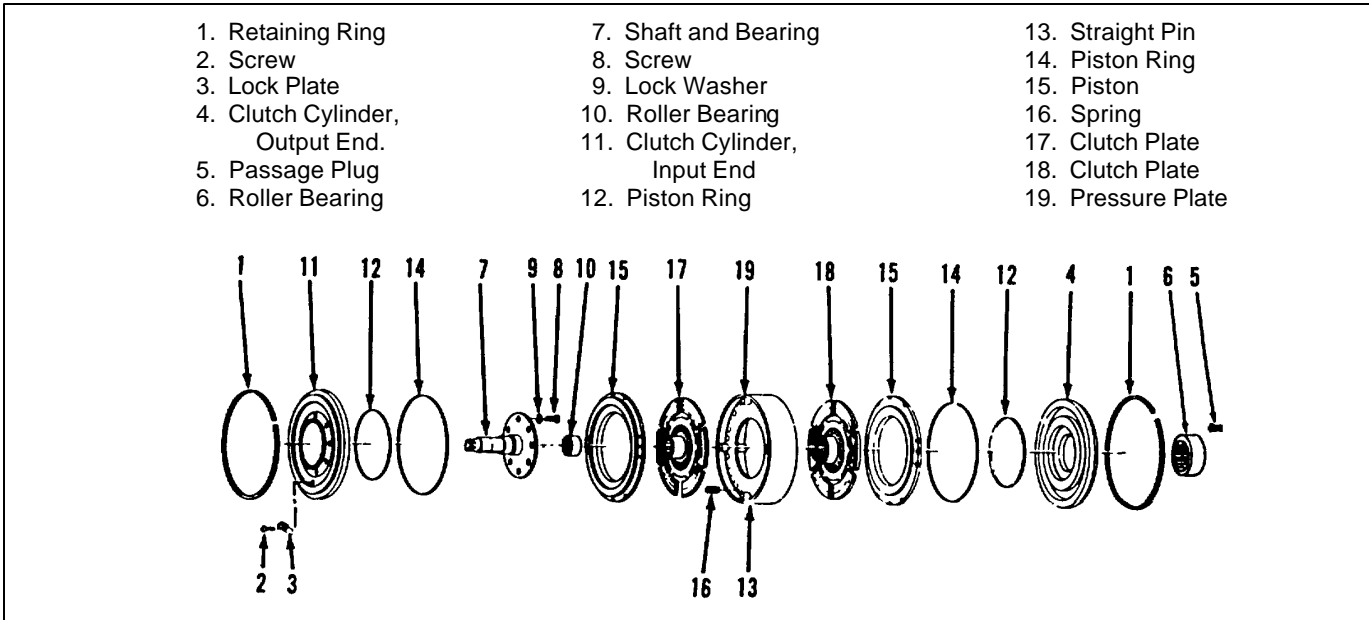

Figure 4-15. Transmission Direction Drive Clutch Assembly, Exploded View
1. Remove both retaining rings (1, figure 4-15), clutch cylinders (4 and 11), all screws (2 and 8) and washers (9).
2. Remove bearings (6 and 10), rings (12 and 14), piston (15) and springs (16). Remove clutch plates (17 and 18) from pressure plate (19).